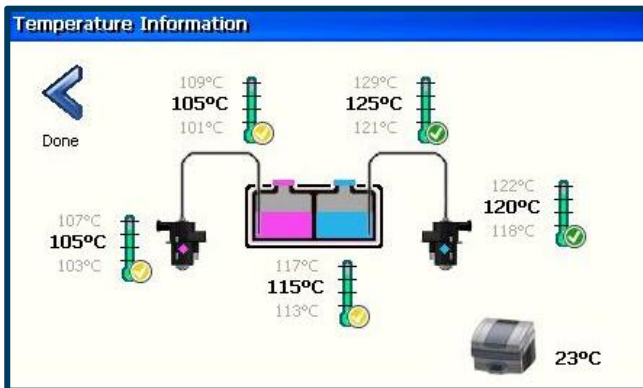

Figure 5a:
- Printers will show yellow check marks on the thermal screen for components until the default set point patch is installed (Figure 5a and 5b).
6. If successful, the checkmark on the temperature screen will turn green (Figure 5a and 5b).